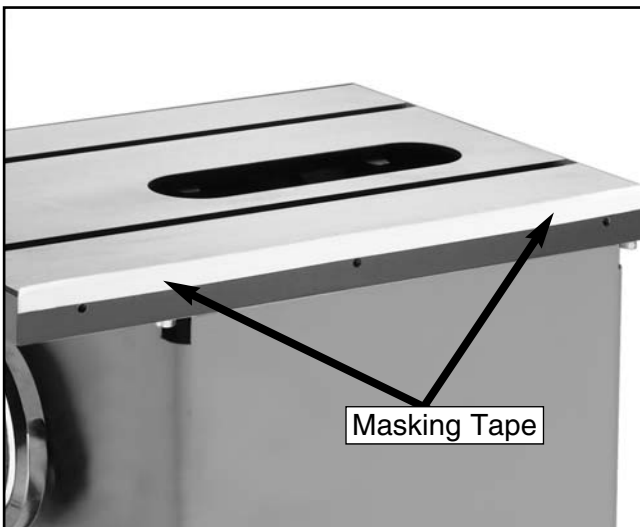

Figure 10. Using tape to shim for wing alignment.
1. Attach the left wing to the table using the (3) $\frac{3}{8}$ "-16 x 1 $\frac{1}{4}$ " Hex Bolts and $\frac{3}{8}$ " Flat Washers provided. Adjust the wing reasonably flush with the table and do not tighten the bolts completely at this time.
2. Attach the right wing to the table using the (3) $\frac{3}{8}$ "-16 x 1 $\frac{1}{4}$ " Hex Bolts and $\frac{3}{8}$ " Flat Washers provided. Adjust the wing reasonably flush with the table and do not tighten the bolts completely at this time.
8. If the extension wings tilt up or down at the outside edges, remove the wings and shim them with masking tape as shown in **Figure 10**.